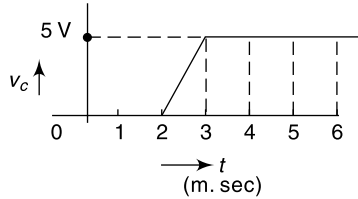

Fig. 14.10
14.17 Determine the current through a $20 \mu\text{F}$ capacitor when a voltage waveform shown in Fig. 14.10 is applied.